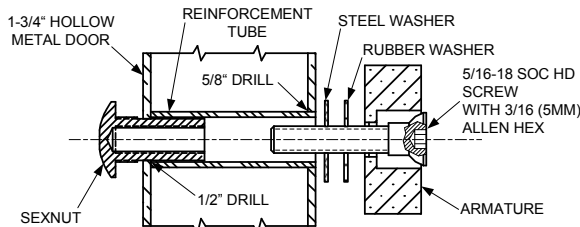

FIG. 2A HOLLOW METAL DOOR
3. Mark and drill holes as indicated by template. For armature plate hole preparation, see Figure 2A, 2B, 2C.
4. Mount armature to door. To determine proper hardware (provided), see Figure 2A, 2B, 2C.
Drill 3/8" hole thru door. From sexnut side of door, drill exactly 1/2" hole, 1-3/8" deep. Mount armature to door with hardware provided per Figure 2A.